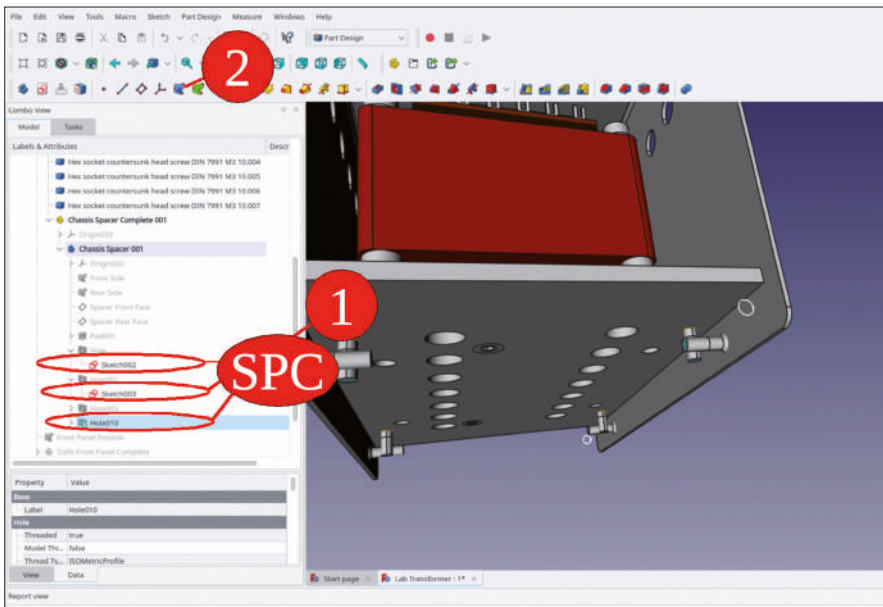

Figure 9-152
7. In the tree view, display the two sketches for the holes in the spacer end faces (Figure 9-152). Hide the tip of the body 'Chassis Spacer 001' (designated as 'Hole010').